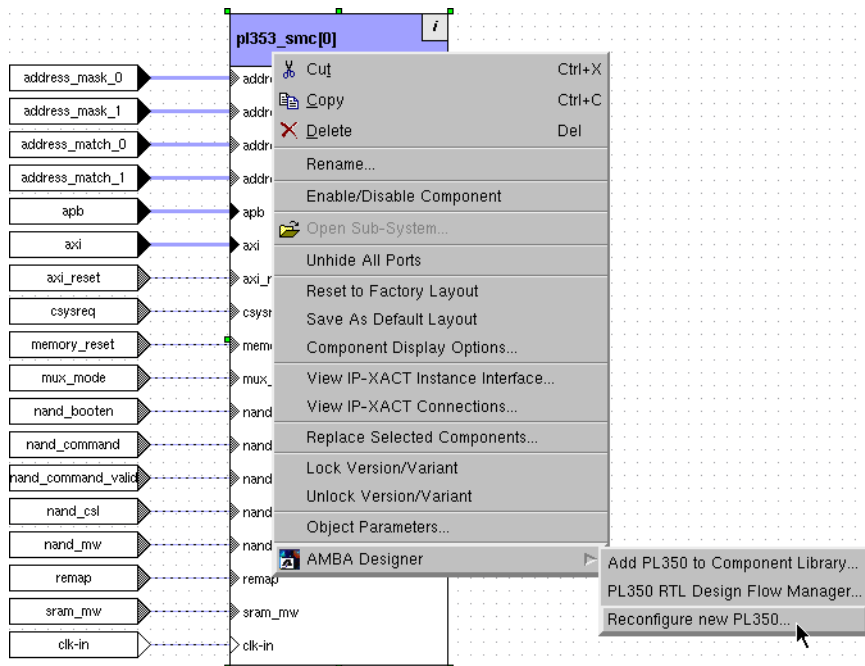

Figure 6-9 Reconfigure PL350 selection
4. Select **AMBA Designer** → **Reconfigure new PL350...** from the context menu, as Figure 6-9 on page 6-15 shows. This opens the PL350 reconfiguration dialog box.